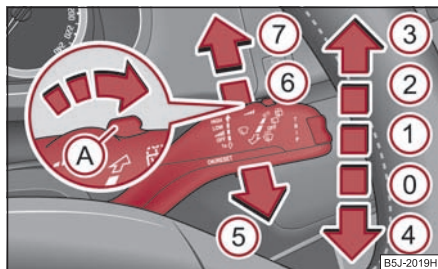

Fig. 60 Windscreen wiper lever
The windscreen wiper lever ⇒ fig. 60 has the following positions:
- Push the lever away from the steering wheel into position ⑥ ⇒ fig. 60, the windscreen wiper will operate every 6 seconds.
The headlights are being cleaned after the windscreen washer system has been operated for the fifth time, the low beam or main beam are switched on as well as the windscreen wiper lever is held in the position ⑤ ⇒ page 58, fig. 60 for about 1 second.